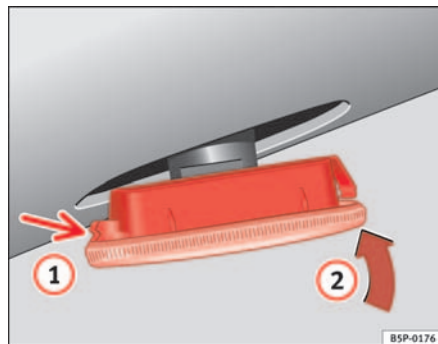

Fig. 191 Indicator
- First place the indicator in the opening in the bodywork, fixing the tabs ⇒ fig. 191, arrow ①.
- Insert the lamp as shown by the arrow ② ⇒ fig. 191. ■